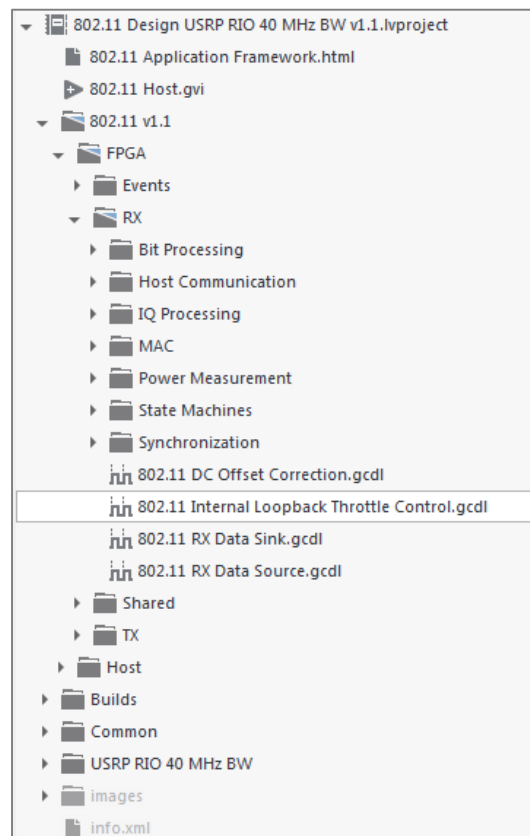

Figure 6: Navigation Pane Folder Path
1. As shown in Figure 6, find “802.11 Internal Loopback Throttle Control.gcdl” by navigating to the `<project director>\802.11\FPGA\RX` folder in the Navigation Pane.